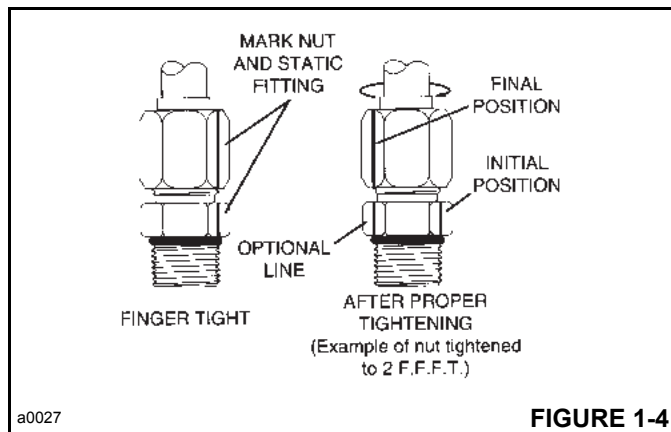

FIGURE 1-4
6. Optionally for future tightening of the same connection: extend the line from the nut at its new location onto the hex of the static fitting or port ((Figure 1-4)).